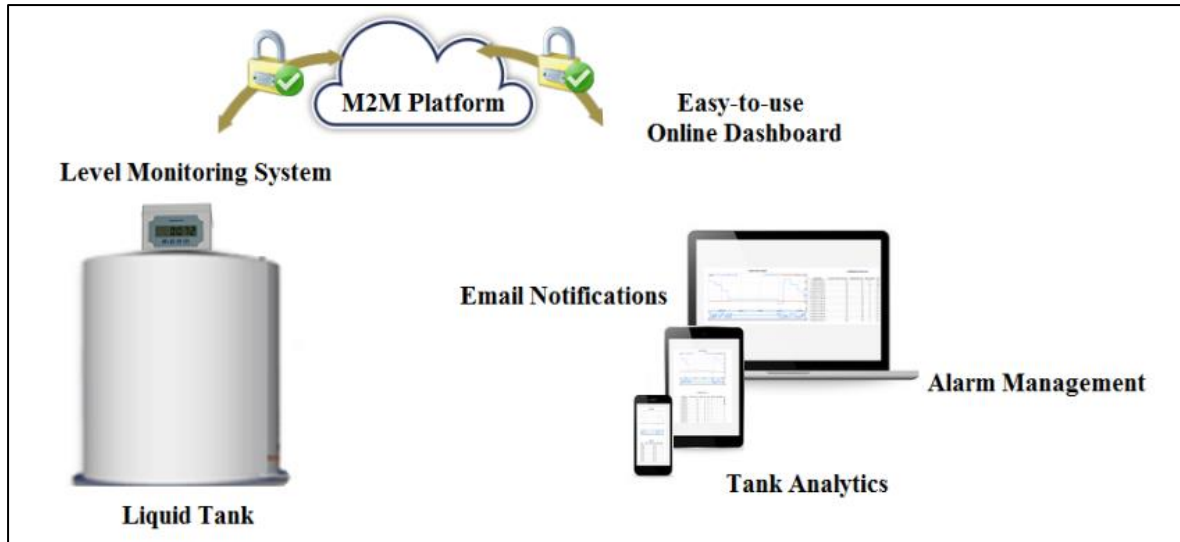

Fig.1. Working Principle
- The ILS senses the liquid level in a tank as shown in Fig.1 and transmit the value every fifteen minutes to an online database. This period can be customised.